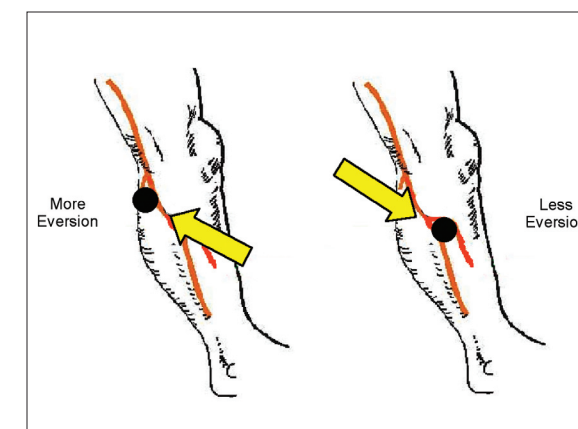

Figure 29: In general, the posterior black electrode determines the direction of the foot lift
- Generally, shifting the black electrode more posterior and proximal elicits more eversion; and shifting the black electrode more anterior and distal elicits more dorsiflexion. (Figure 29)